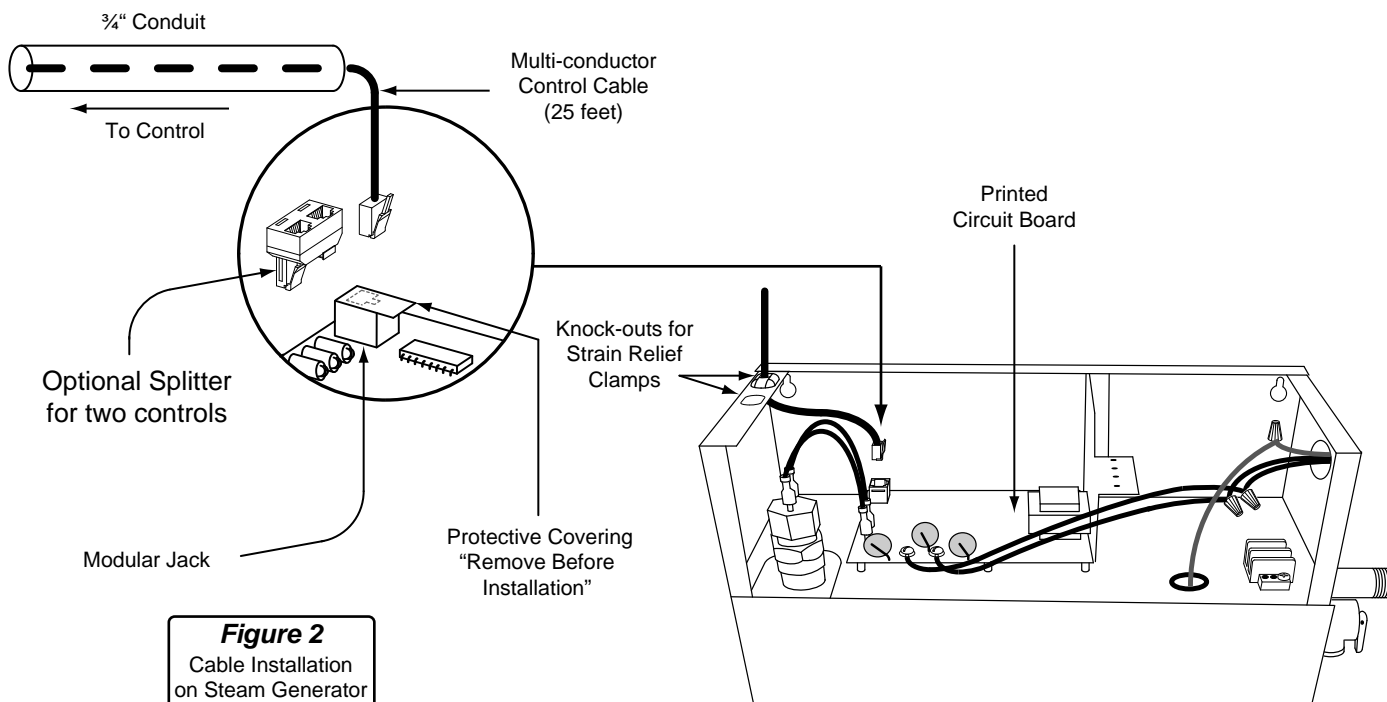

Figure 2
- a) Locate the previously installed cable and black plastic strain relief clamp which is in the control packing box. Locate the knock-out on the steam generator for the control cable (see Figure 2).